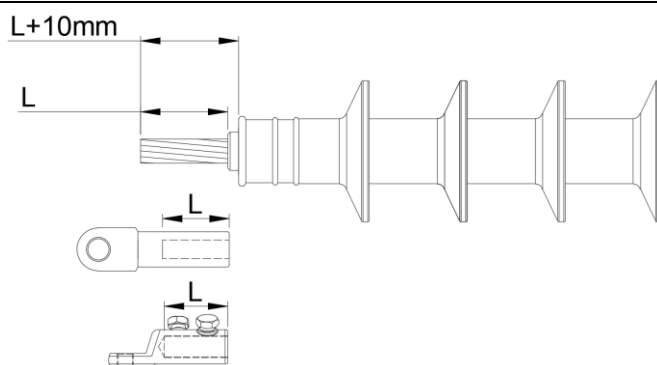

Fig.5
- Remove the insulation to expose the bare conductor according to lug depth “L” as shown in Fig.5.